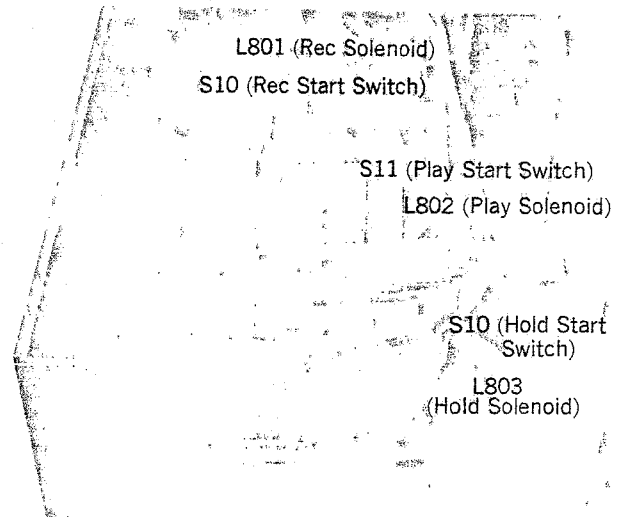

Fig. 5-3
1) Position Adjustment of Holding Plunger Solenoid and Micro-Switch S10 (HOLD START S.W.) Fig. 5-3.